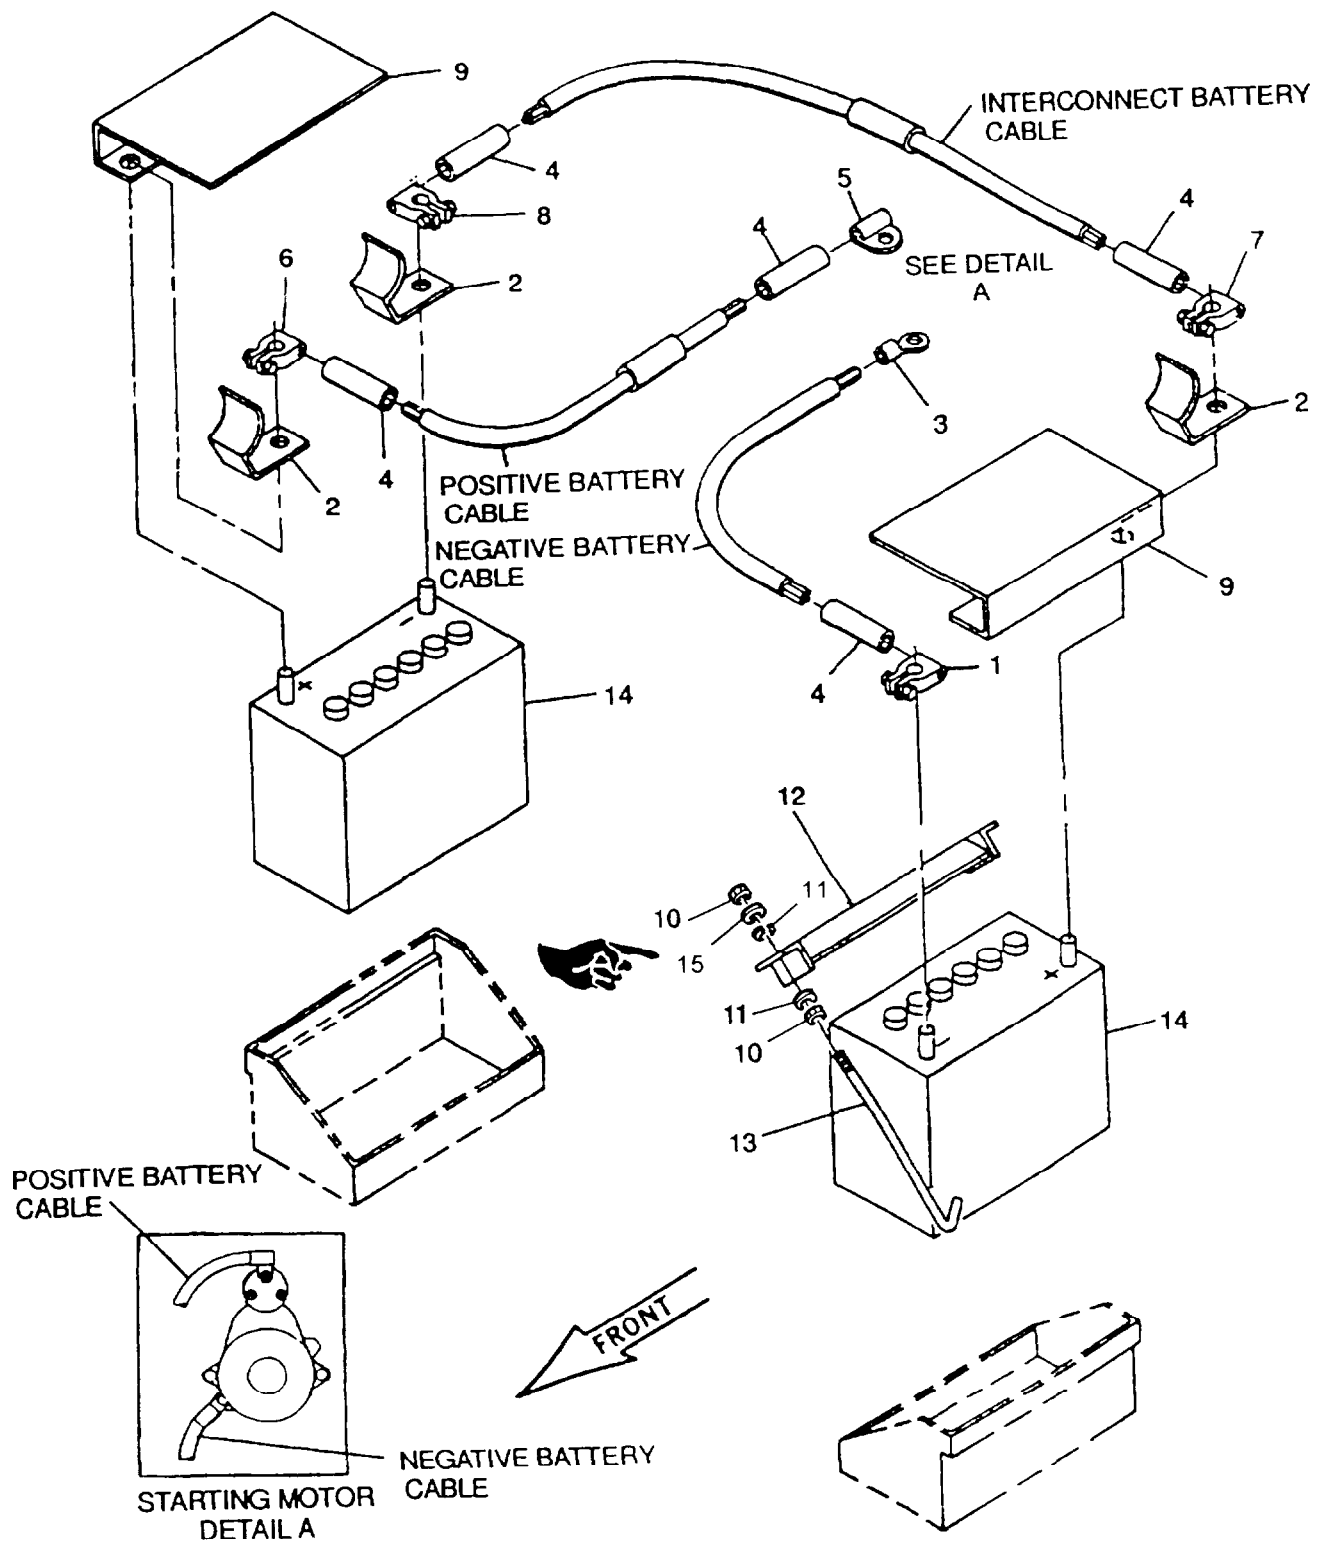
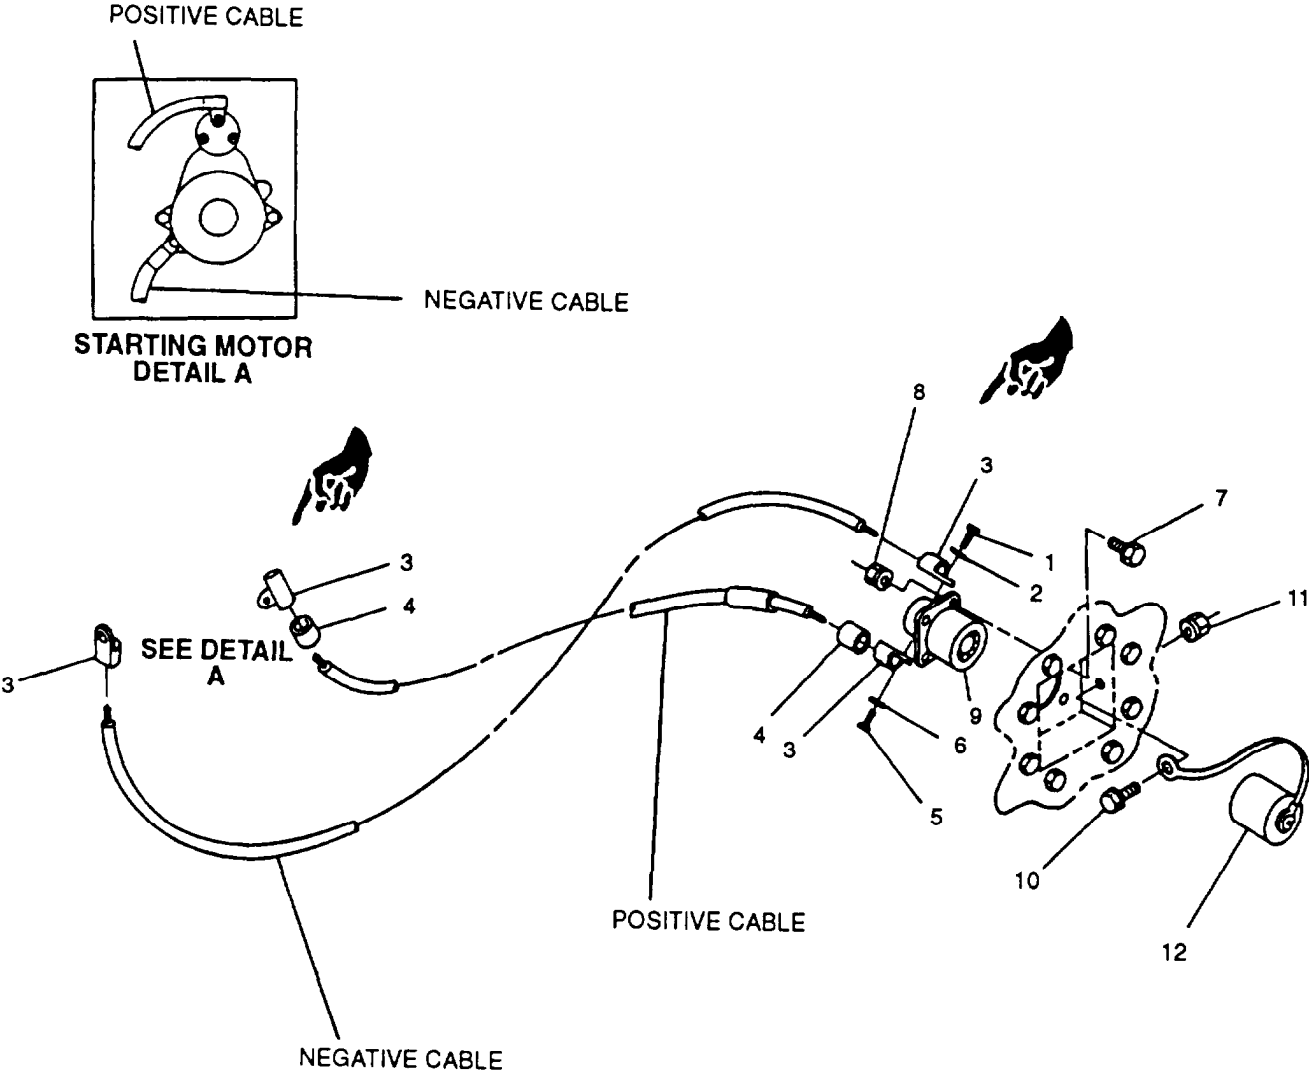

Figure 2-3. Batteries and Cables
FIGURE 2-4. NATO Slave Receptacle and Cables
- c. Disconnect negative battery cable terminal (1, FIGURE 2-3) from battery.
- d. Disconnect and remove applicable cable assembly as shown in FIGURE 2-3 or FIGURE 2-4.
- a. Remove terminal cover(s) (2, Figure 2-3) from battery post(s), if applicable.
- c. Install terminal cover(s) (2), if removed
- a. Remove applicable broken or damaged terminal as shown in Figure 2-3 or Figure 2-4.
- b. Slide new shrinkable tubing (4, Figure 2-3 or Figure 2-4) over cable end.
- d. Heat shrinkable tubing (4) with heat gun until secure.
- a. Install applicable cable assembly as shown in Figure 2-3 or Figure 2-4.
- b. Connect negative battery cable terminal (1, Figure 2-3) to battery.
- c. Disconnect negative battery cable terminal (1, Figure 2-3).
- d. Disconnect positive cable terminal (6).
- e. Disconnect interconnect cable terminals (7) and (8) and remove interconnect battery cable.
- f. Remove terminal covers (2) and battery covers (9).
- g. Remove nuts (10), washers (11), lockwashers (15), retaining bars (12), and retaining clamps (13).
- h. Remove batteries (14).
- c. Remove terminal covers (2, Figure 2-3) and battery covers (9).
- e. Install terminal covers (2) and battery covers (9).
- a. Install batteries (14, Figure 2-3). Ensure that batteries are fully charged.
- b. Install battery covers (9) and terminal covers (2)
- c. Apply grease (Item Appendix) to battery posts and cable terminals (1), (6), (7), and (8).
- d. Install battery retaining bars (12), clamps (13), washers (11), lockwashers (15), and nuts (10) (both sides)
- c. Open right side engine access door, remove bolt (1, FIGURE 2-4), washer (2), and disconnect negative cable terminal (3) from slave receptacle (9).
- d. Remove bolt (5), washer (6), and disconnect positive cable terminal (3) from slave receptacle (9).
- e. Remove bolts (7), nuts (8), and slave receptacle (9) from generator set housing.
- f. Remove bolts (10), nut (11), and cap (12) from housing.
- a. Insert slave receptacle (9, FIGURE 2-4) into generator set housing.
- b. Secure slave receptacle (9) to generator set with bolts (7) and nuts (8).
- c. Connect slave receptacle positive cable terminal (3) to slave receptacle (9) with bolt (5) and washer (6).
- d. Connect negative cable terminal (3) to slave receptacle (9) with bolt (1) and washer (2).
- e. Attach cap (12) to housing with bolt (10) and nut (11).